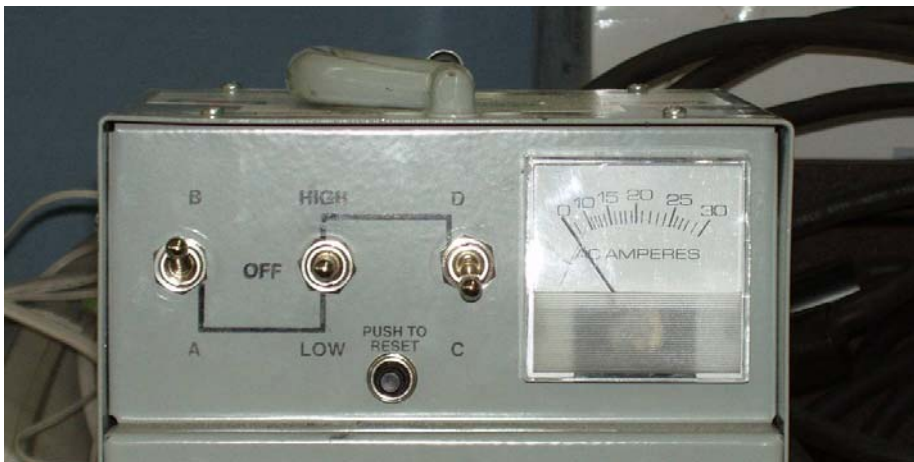

Figure 15- Front Face-“Nibco” Braze Unit Control
- 6.13.10 Set the toggle switches on the control unit to “B” and “C”. [Figure 15- Front Face-“Nibco” Braze Unit Control]